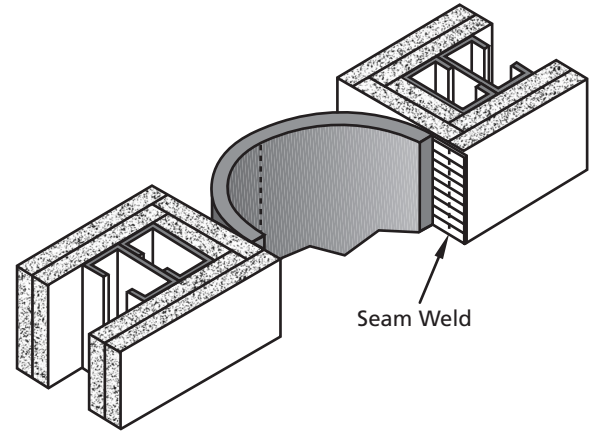

Fig. C1
With the Low Profile (LP) galvanized flanges, the foil flanges can be inside the joint cavity so that no part of the barrier is on the exposed surface of the wall. (See Fig. C1).